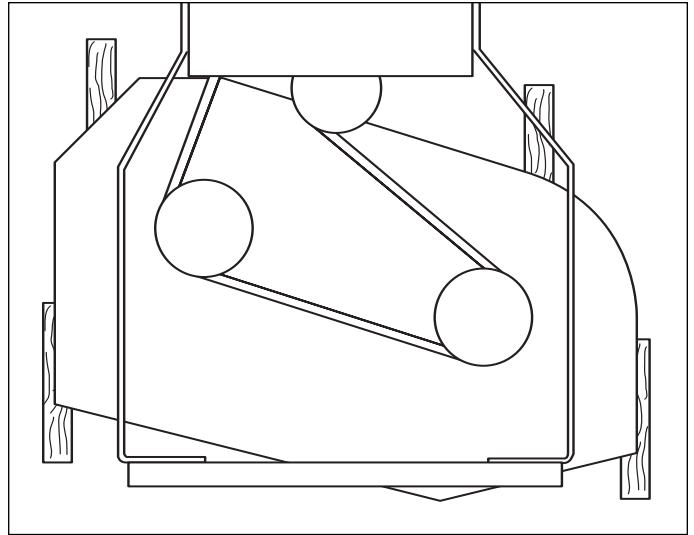

Figure 13. 2 x 4 Placement
- 3A. If the mower deck is in the HIGH RANGE, place 2 x 4 blocks under the outside edges of the mower deck with the 3-1/2" sides being vertical. Place a 1/8" (3mm) thick spacer on top of the rear 2 x 4 blocks. (See Figure 13)
- 3B. If the mower deck is in the LOW RANGE, place 2 x 4 blocks under the outside edges of the mower deck with the 1-1/2" sides being vertical. Place a 1/8" (3mm) thick spacer on top of the rear 2 x 4 blocks. (See Figure 13)